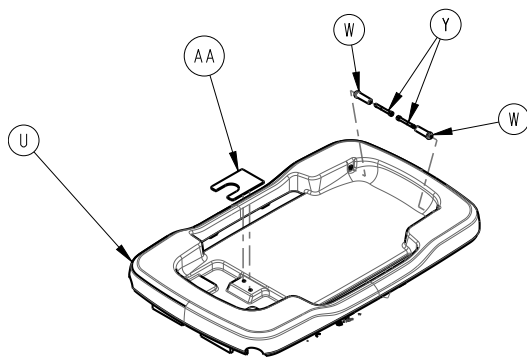

Figure 2 – Upper cradle
3. Using a 3/16" hex wrench, remove the two yellow basket pivot pins (W and Y) from the upper cradle (Figure 2). Save the pivot pins.
8. Grasp both sides of the upper cradle (U) and pull up to separate the upper and the lower covers (Figure 2).